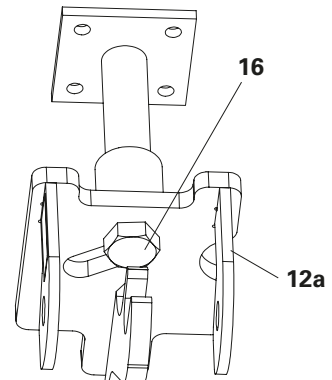

Fig. B1.03b
2. Push Suspension Head VGK Flex (12a) into position and tighten Screw ISO 4014-M24x100-8.8-ga (16). (Fig. B1.03b)